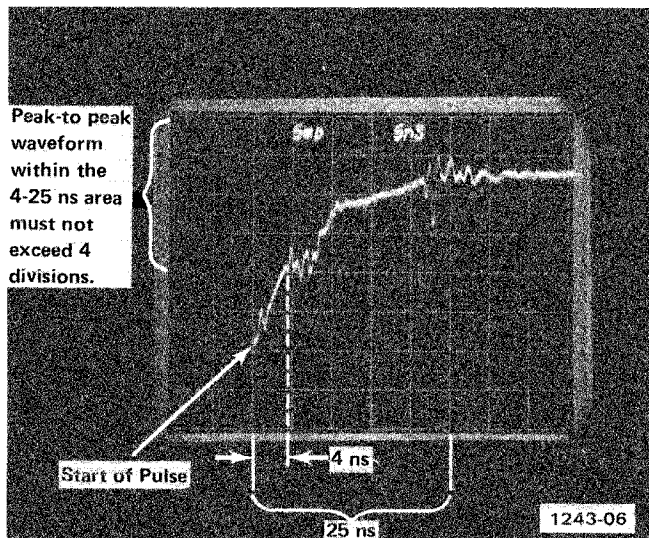

Fig. 5-5. Waveform showing a 4 division display corresponding to a reflection coefficient of 0.1 or less.
m. Position the top portion of the waveform to midscreen, using the DC OFFSET control (see Fig. 5-5).
o. Check—the peak to peak waveform for a 4 division display or less, as observed within the 4–25 nsec area (see Fig. 5-5). This corresponds to a reflection coefficient of 0.1 or less. If more than four divisions, repeat steps 7, 8, and 9.